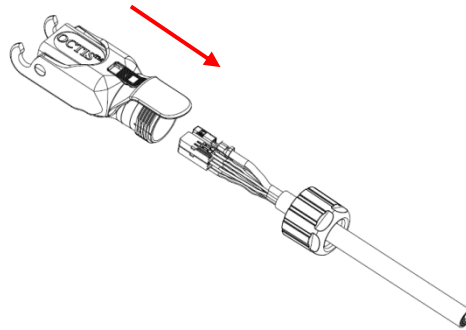

Figure 30
3. Insert the “housing sub set kit combo power/signal” through the front end of the cable (Fig 30)